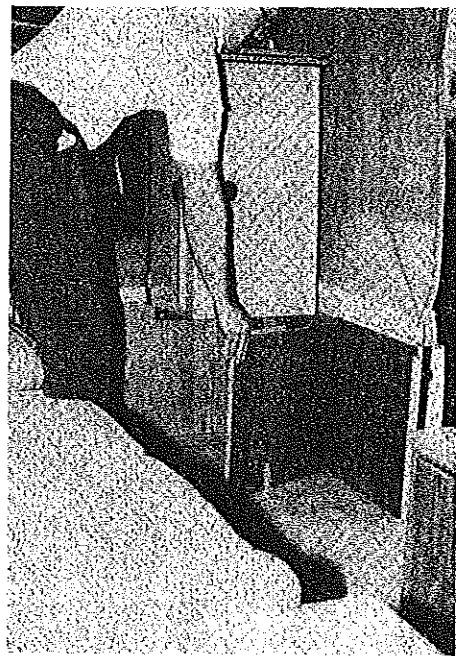

FIGURE 20
23. While holding the closet in the vertical position, open the wooden rest from its storage position against the interior trailer wall and slide it under the closet. (See Figure 20)